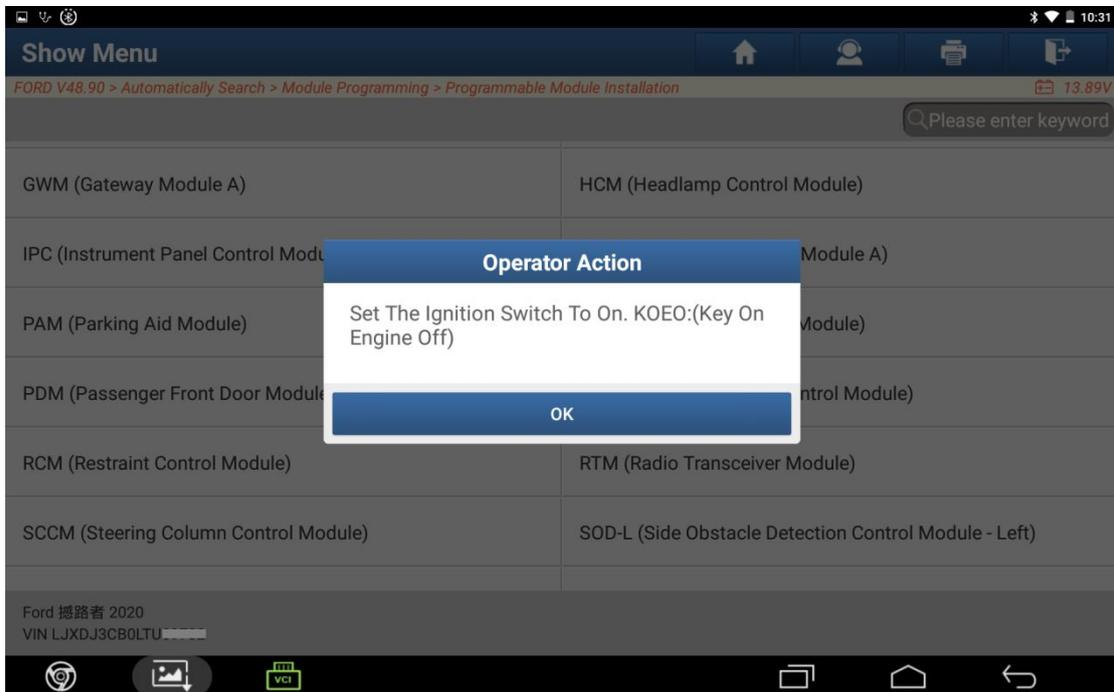
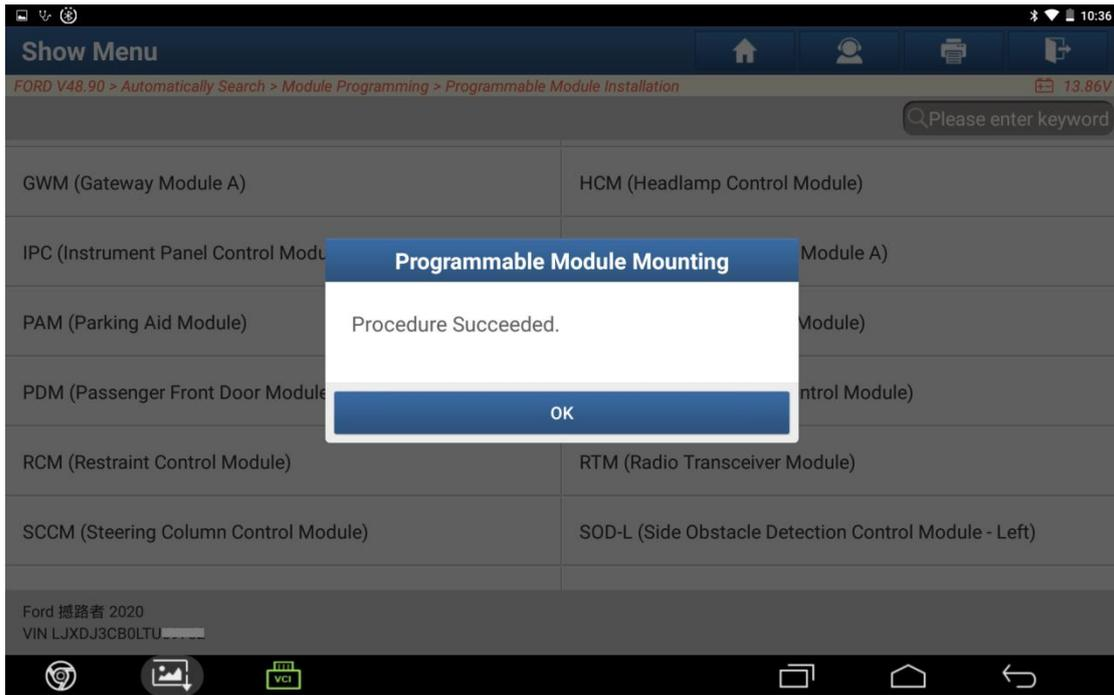

Figure C14
Figure C15
- Turn the ignition switch to ON and write data. Function execution is successful. See Figure C14 and Figure C15.